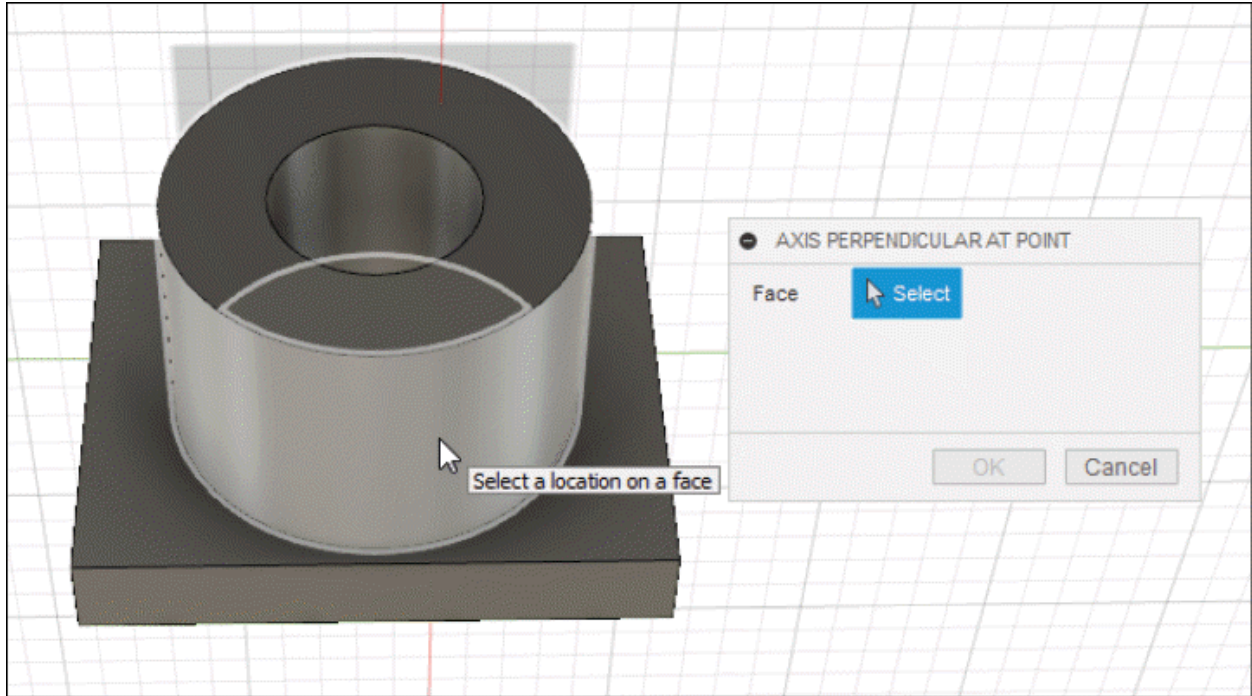

Figure-106. Selection of face for axis
- Click at desired location on the face of model; refer to Figure-106.